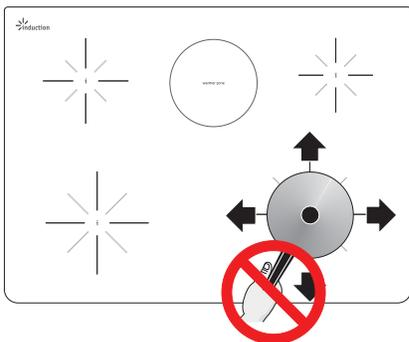

Figure 39: Do not slide pan
- slide anything across the cooktop (Figure 39).